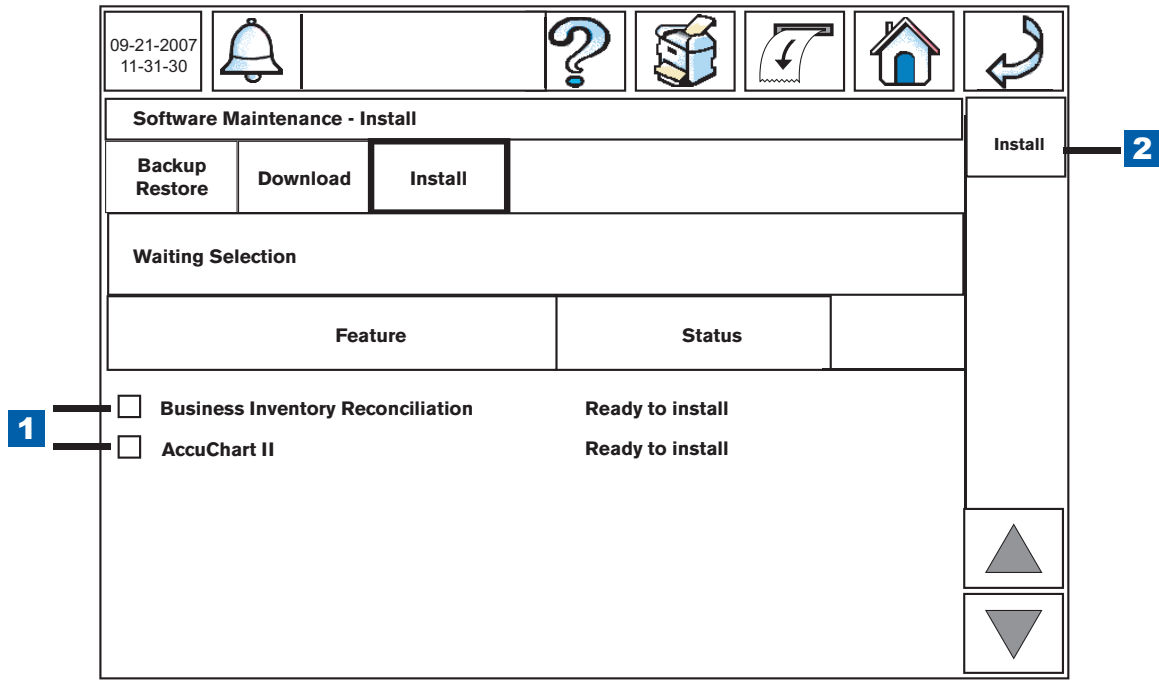

Figure 16. Installing Software Features
5. Once the download process completes, touch the Install tab. Touch the check boxes beside the feature(s) you wish to install (item 1s in Figure 16). Once you have selected the desired features to install, touch the Install button (item 2 in Figure 16).
LEGEND FOR NUMBERED BOXES IN Figure 16